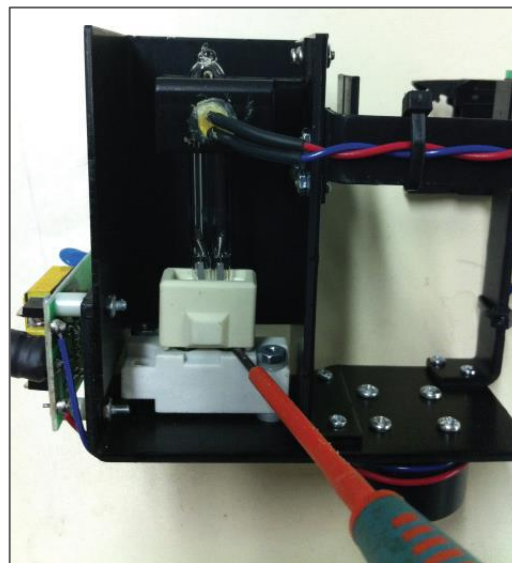

Figure 14.9: Lever lamp out of socket
8. Use a small flat head screwdriver to pry the lamp base from the ceramic lamp socket, as shown in Figure 14.9.